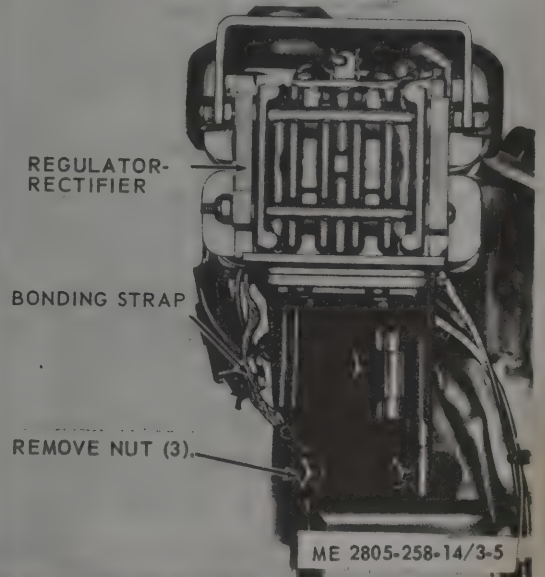

Figure 3-5. Bonding strap, removal and installation.
a. *Bonding Strap (Model 2A042-2)*. Refer to figure 3-5 and replace bonding strap.